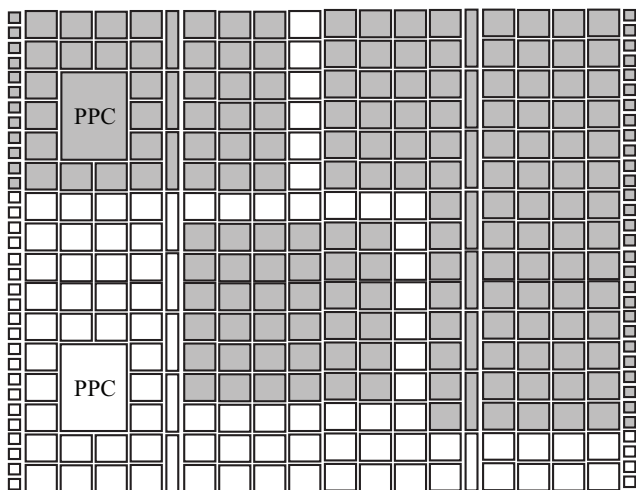

Figure 2. (U) User-defined isolated regions must be separated by one unused CLB to meet FSDA requirements.
(U) In order to achieve isolation within a single device the concept of a *fence* is introduced. The *fence* is nothing more than a set of unused CLB(s). In the *fence*, no routing or logic may be present. The result of the analysis showed that a single unused CLB between isolated regions provides, at a minimum, three physical failures of isolation, and hence exceeds the FSDA requirements. A hypothetical FPGA design with three isolated regions, separated by the fence, is shown in Figure 2.